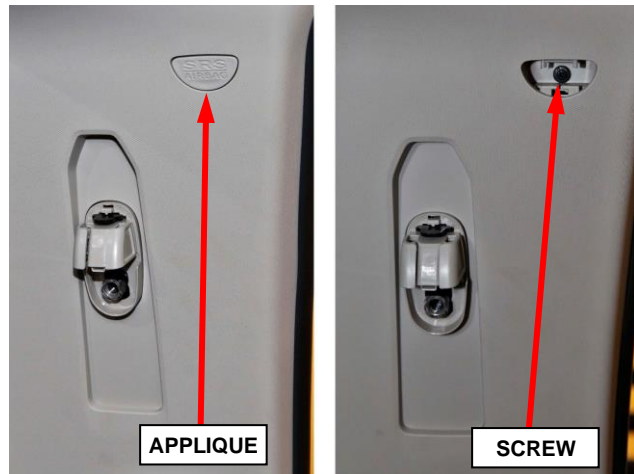

Figure 5 – B-Pillar Upper Trim Panel Fastener
- Using a trim stick or equivalent, release the B-pillar airbag applique then remove the screw that secures the upper trim panel (Figure 5).
47. Install and tighten the screw that secures the B-pillar upper trim panel then install the airbag applique cover (Figure 5).